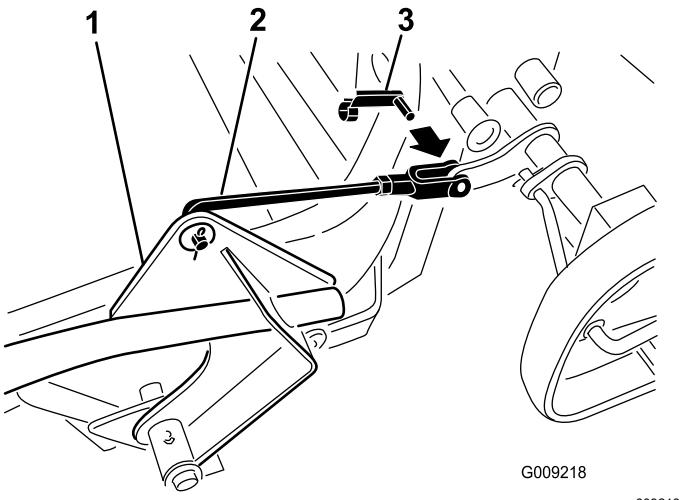

Figure 11
1. Remove the clevis-pin spring from the bagger-arm assembly (see Figure 11).
6. Rotate the bagger-handle linkage up to the bagger assembly and secure it with a clevis-pin spring (Figure 11).